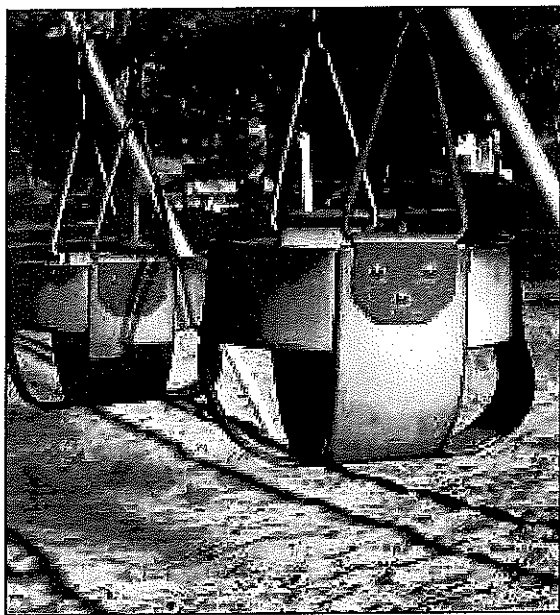

Figure 24. Example of full bucket seat swings
- Full bucket seats are recommended to provide support on all sides of a child and between the legs of the occupant (see Figure 24).